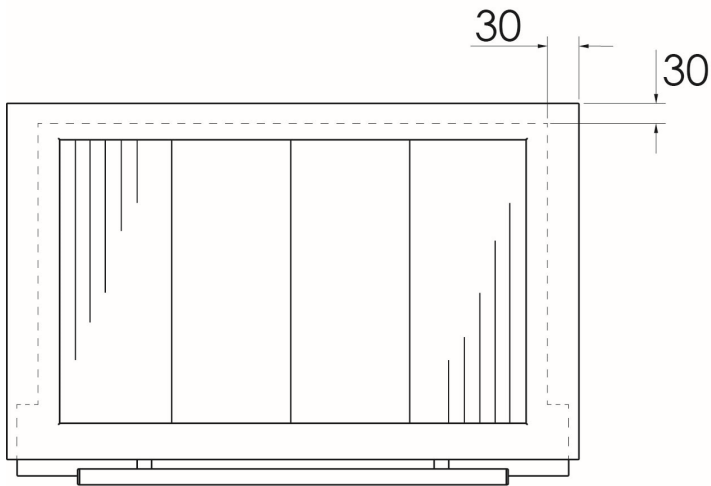

Fig.1
- The Hybrid Grill is designed as a free standing grill, and does not require enclosing in a box or cabinet to function efficiently. Where the appliance is placed in a surround of wood or other flammable material, ensure that the side and rear clearance gaps depicted in Fig.1, 2 & 3, are buffered by a non flammable material (e.g. Ceramic wool or Vermiculite board) and the rear airflow hole in the appliance is not obstructed in any way.